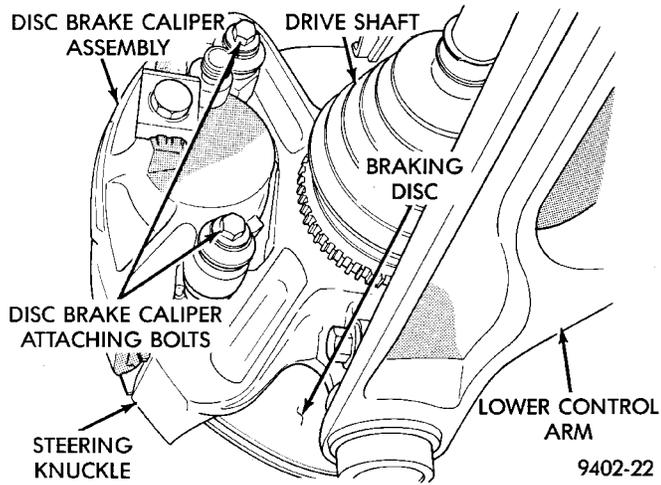

Fig. 52 Caliper Attaching Bolts
- (2) Remove the front wheel and tire.
- (3) Remove the 2 bolts (Fig. 52) attaching the disc brake caliper to the steering knuckle .